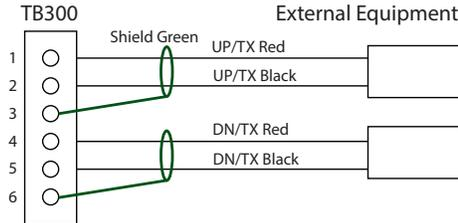

Figure 18: Upstream/downstream transducer
4. The terminals within the transmitter are screw-down barrier terminals. Connect the wires at the corresponding screw terminals in the transmitter. Observe upstream and downstream orientation and wire polarity. See Figure 18.